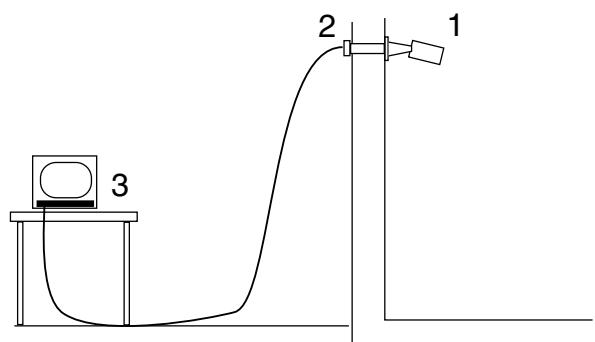

Figure 7.4. The video monitor system. For explanations, see text.
The schematic diagram of the closed-circuit television system is shown in Fig. 7.4. The camera (1) is placed inside a separate RF-shield. The cable (2) goes through a dedicated feedthrough to the monitor (3). The camera should be kept further than one meter away from the Elekta Neuromag® in order to avoid additional noise.